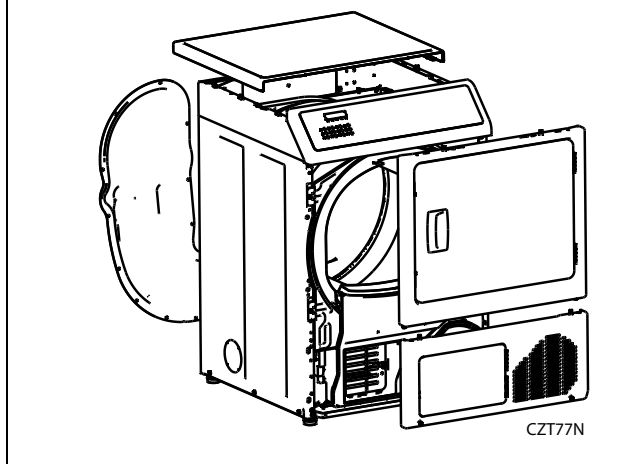
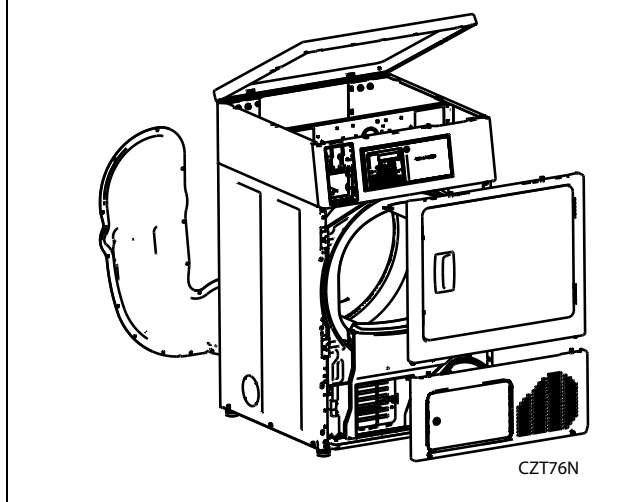

Figure 30
Figure 31
- remove top panel, access panel, front panel and rear panel. Refer to *Figure 30* and *Figure 31*.